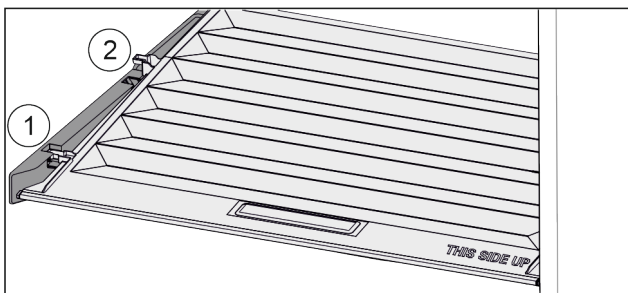

Fig. 138
- ▶ Pull the lid up at the front to the opening in the retaining parts Fig. 138 (1).
- ▶ Lift from the back and pull it up and out Fig. 138 (2).